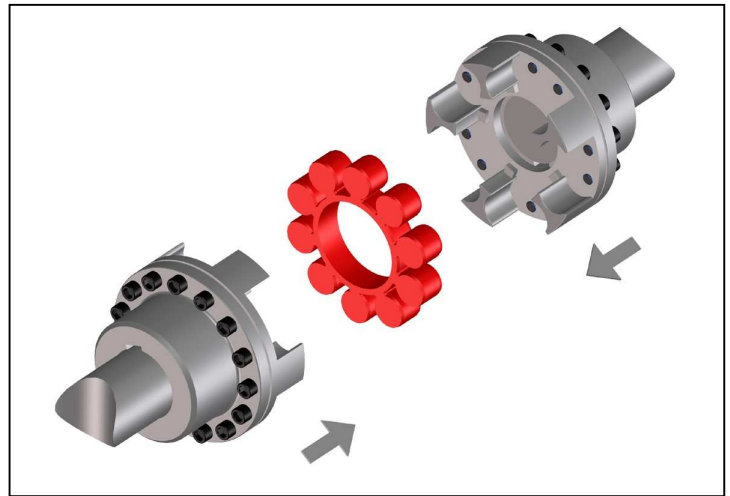

Fig. 5
- Push the shaft ends with the mounted coupling halves together. (Fig. 5).